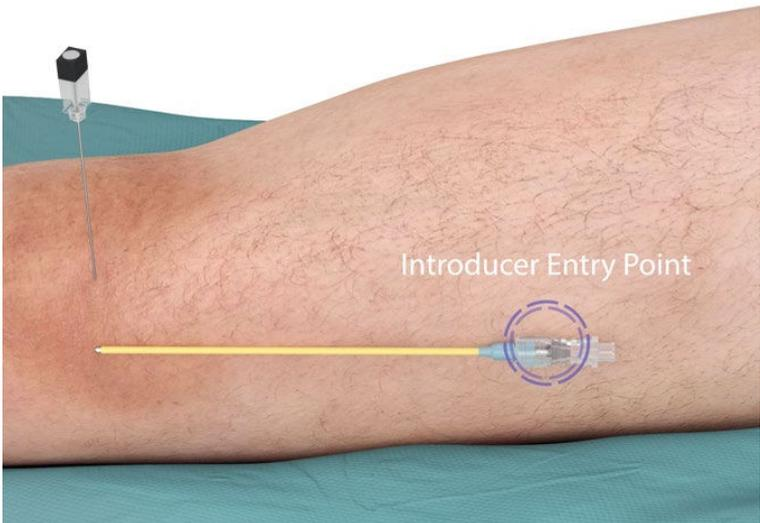

Figure 2
1. If necessary, make a puncture incision before inserting the introducer assembly. (Figure 2 and 3).